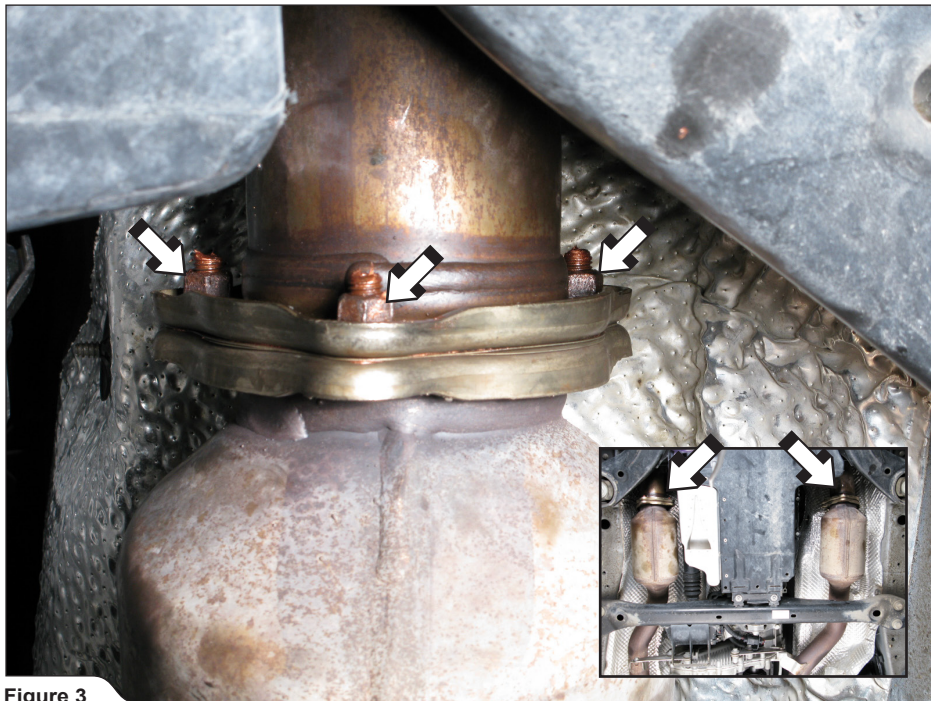

Figure 3
4. **For Optional Front Link Pipe Set only:** unscrew the marked flange nuts on both sides (Figure 3).